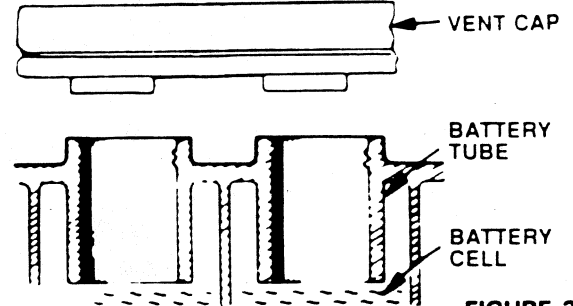

FIGURE 23
- Battery acid level in each battery cell should be even with bottom of tubes in cells (Fig. 23). Add distilled water if necessary. NOTE: DO NOT OVERFILL.